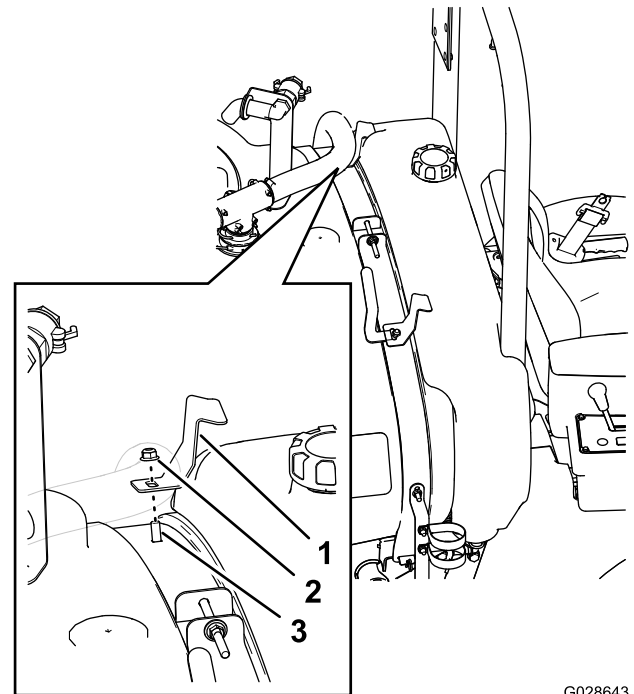

Figure 14
4. Align the rinse tank to the sprayer tank as shown in Figure 14.
5. Align the left tank bracket onto the carriage bolt (3/8 x 1 inch) at the upper-inboard holes of the left, front strap (Figure 14).
6. Secure the tank bracket to the carriage bolt and strap (Figure 14) with a flanged locknut (3/8 inch).